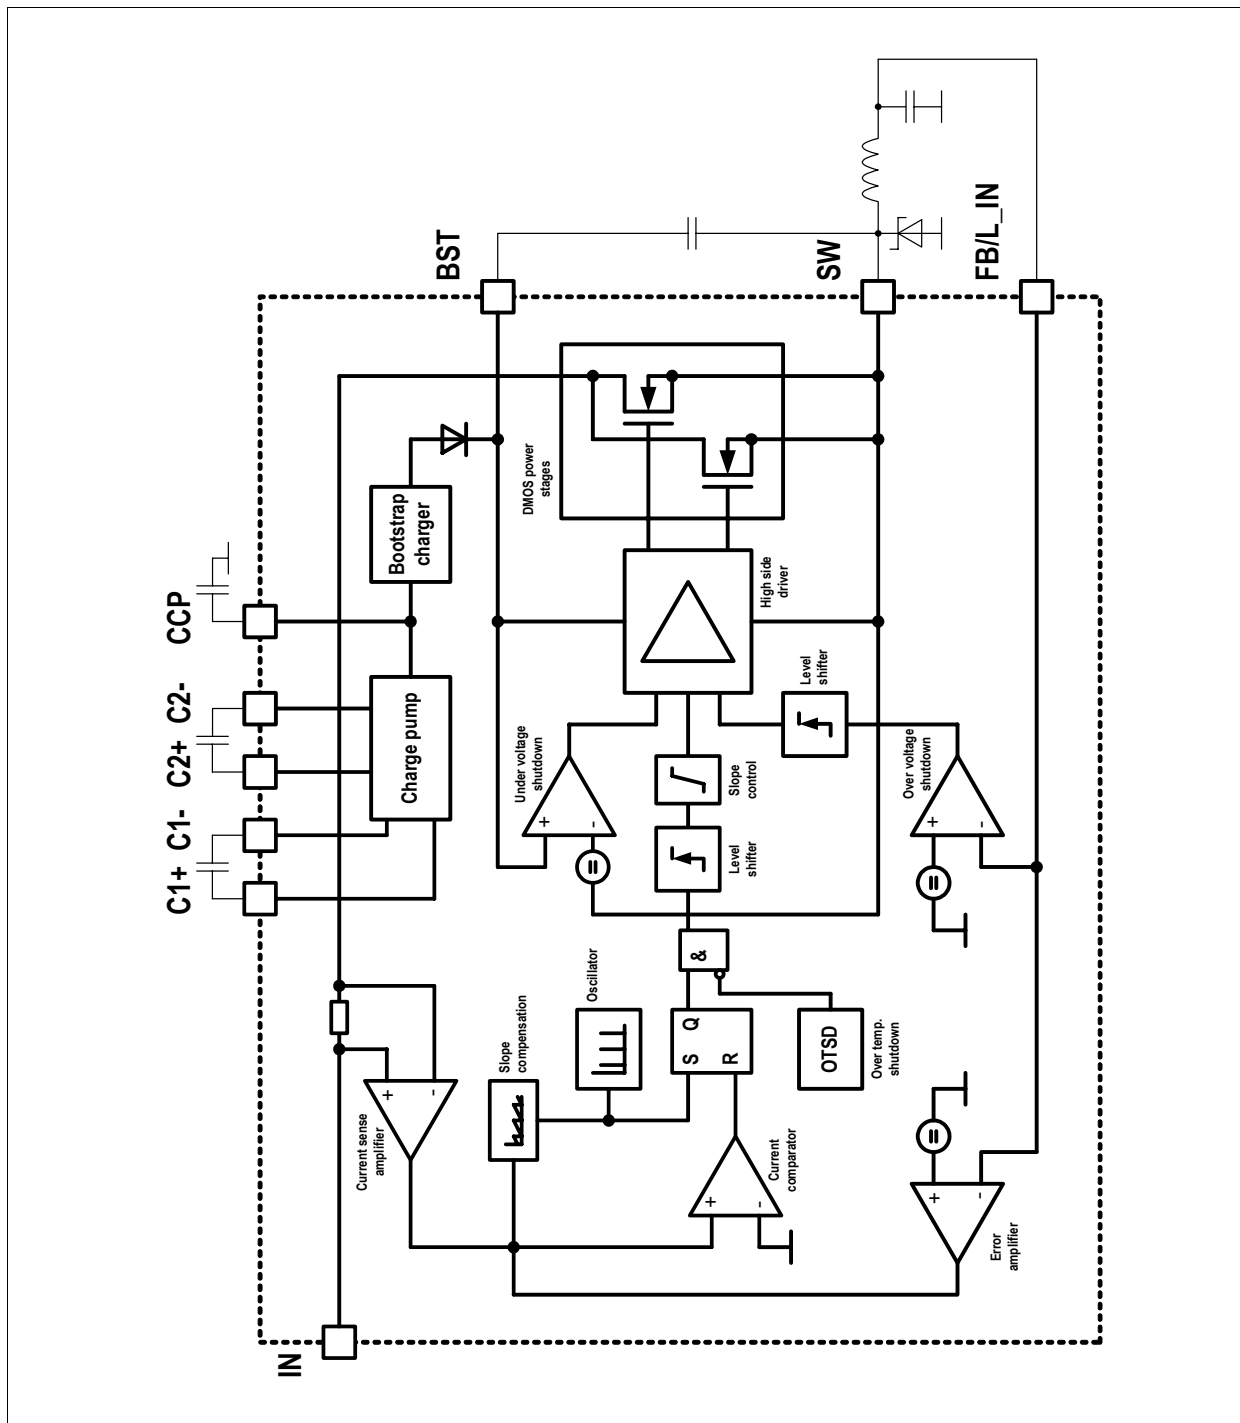

Figure 3 Buck Converter Block Diagram
The TLE7368's DC to DC converter features all the functions necessary to implement a high efficient, low emission Buck regulator with minimum external components. The step down regulator in the TLE7368 follows a concept similar to the one of its predecessor, TLE6368, which allows operation over a battery voltage range from as low as 4.5 V up to a maximum of 45 V at peak currents of 2.5 A at minimum. **Figure 3** shows the block diagram of the converter with its major components, i.e. the internal DMOS power stages, the high side driver including its supply scheme, the power stage slope control circuit for reduced EME, the current mode control scheme and various protection circuits for safe converter operation.
1) Not shown in the schematic, Figure 3.